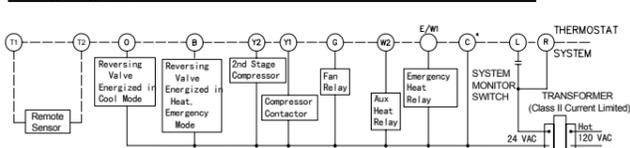

Figure 4. Typical wiring diagram for single transformer heat pump systems
- Connect wires beneath terminal screws on base using appropriate wiring schematic (see fig 4 through 6 and fig 1).